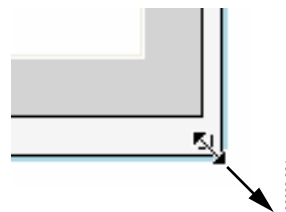

Figure 26. Resizing the Graph
- Resize the **Graph** component by positioning the cursor over the corner resize handle, drag the component out to a larger size (see Figure 26).